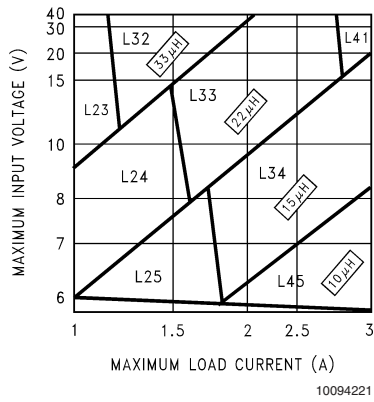
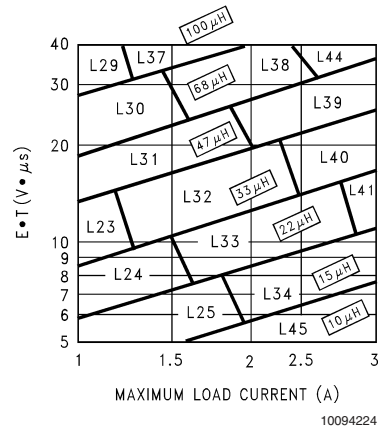

FIGURE 3. LM2670-3.3
FIGURE 6. LM2670-ADJ
Step 3: Determine the inductor required by using one of the four nomographs, *Figure 3* through *Figure 6*. Table 1 provides a specific manufacturer and part number for the inductor.
Step 5: Determine an input capacitor from Table 4 for fixed output voltage applications. Use Table 2 to find the specific capacitor type. For adjustable output circuits select a capacitor from Table 2 with a sufficient working voltage (WV) rating greater than $V_{in\ max}$, and an rms current rating greater than one-half the maximum load current (2 or more capacitors in parallel may be required).
Step 3: Use the nomograph for the 3.3V device, *Figure 3*. The intersection of the 16V horizontal line ($V_{in\ max}$) and the 2.5A vertical line ($I_{load\ max}$) indicates that L33, a 22μH inductor, is required.
Step 3: To use the nomograph for the adjustable device, *Figure 6*, requires a calculation of the inductor Volt•microsecond constant ($E \cdot T$ expressed in $V \cdot \mu s$) from the following formula:
Using Figure 6, the intersection of $27V \cdot \mu s$ horizontally and the $2A$ vertical line ($I_{load} \text{ max}$) indicates that L38, a $68\mu H$ inductor, should be used.
Important Note: When using the adjustable device in low voltage applications (less than $3V$ output), if the nomograph, Figure 6, selects an inductance of $22\mu H$ or less, Table 6 does not provide an output capacitor solution. With these conditions the number of output capacitors required for stable operation becomes impractical. It is recommended to use either a $33\mu H$ or $47\mu H$ inductor and the output capacitors from Table 6.